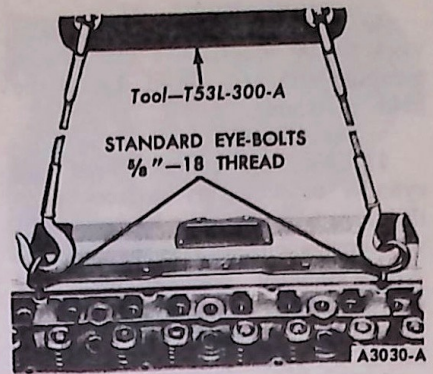

FIG. 11 Removing or Installing Cylinder Head
8. Install standard eye bolts with 5/8-18 threads in the cylinder head and attach the engine lifting sling (Fig. 11).
5. Position the cylinder head on the engine (Fig. 11). Slide the flat washers on the cylinder head bolts.